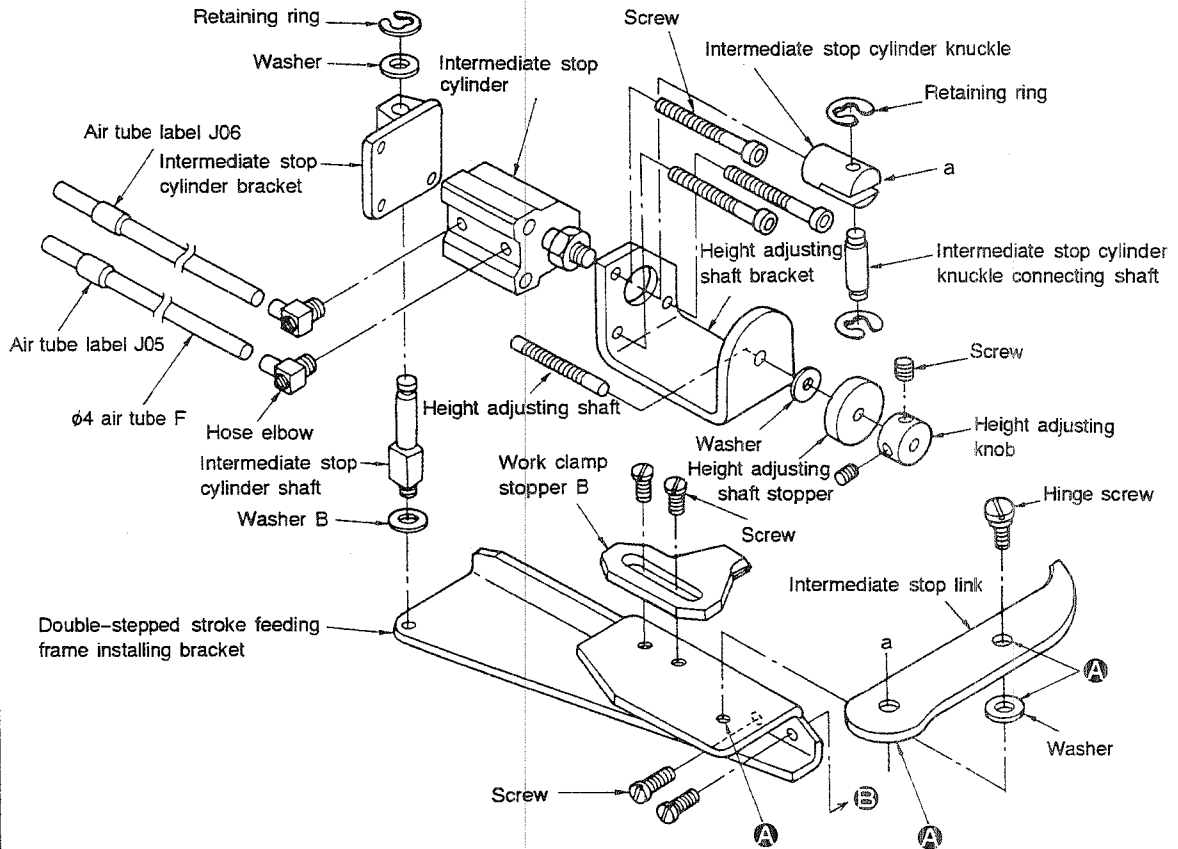

Fig. 4-6-1
- 1) Assemble the double-stepped stroke feeding frame (asm.) referring Fig. 4-6-1.